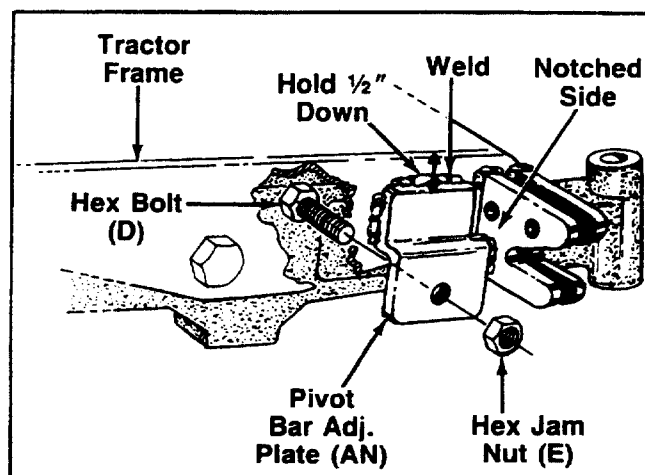

FIGURE 12.
1. Preassemble hex bolts (D) and hex jam nuts (E) to the pivot bar adjustment plates (AM and AN) as shown in figure 12.
2. With the tractor in the raised position, clamp the pivot bar adjustment plates (AM and AN) in position on frame ($\frac{1}{2}$ " down) and weld as shown in figure 12.